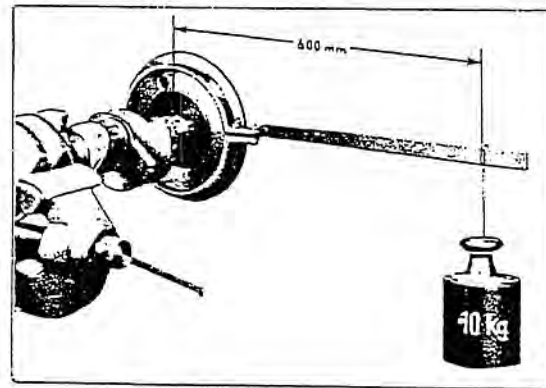

Fig. 03-10/7
12. Fit the pulley (4) to the flywheel (9). Install the locking plate (5) and attach the pulley to the hub by means of the four hexagon screws (8) with spring washers (Fig. 03-10/4). Tighten the four hexagon screws (8) with the prescribed torque (see Job No. 00-0).
13. After mounting the vibration damper check the friction torque which should be between 4.5 and 7 mkp. To do this attach a weight of 10 kg to a lever arm 600 mm long (Fig. 03-10/7).